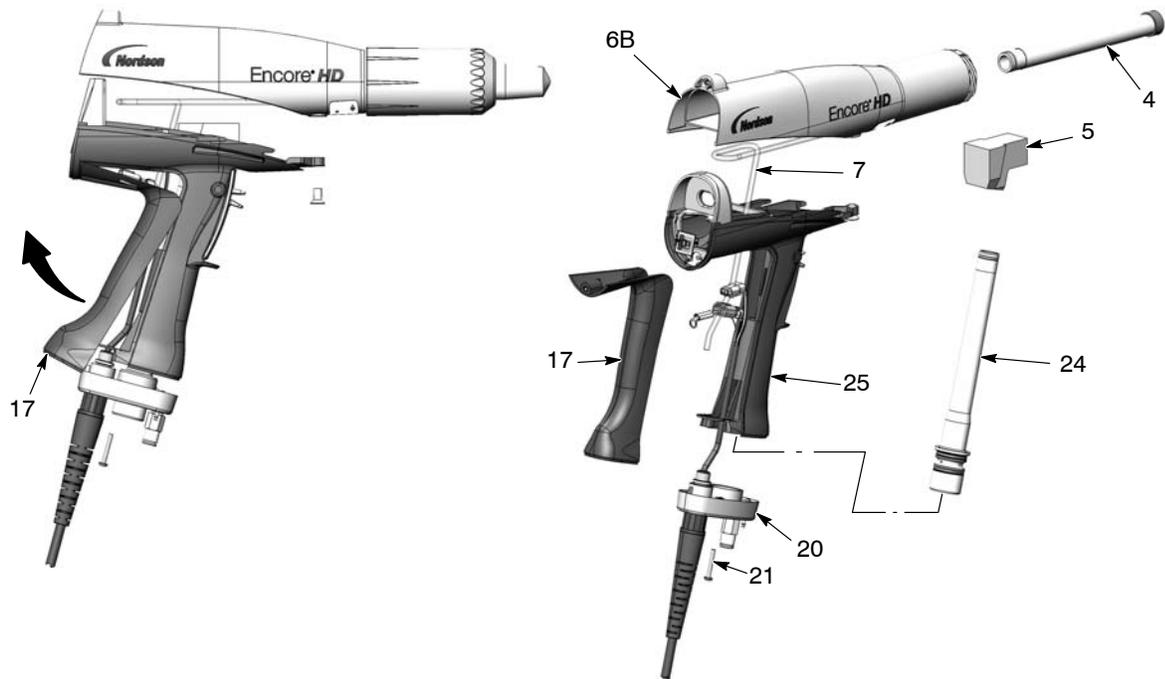

Figure 5-5 Powder Path Replacement
2. See Figure 5-5. Remove the elbow (5) from the inlet tube (24).
3. Remove the two M3 x 20 screws (21) from the handle base (20).
4. Pull the base away from the handle, then swing the bottom of the ground pad (17) up and away from the handle, then remove it. Leave the ground wire connected to the ground pad.
5. Push the inlet tube (24) up and out of the base, then move the base out of the way and pull the inlet tube out of the handle.
6. Push the outlet tube (4) out of the front of the gun body (6B).
1. See Figure 5-5. Install the outlet tube (4) into the gun body (6B), with the end of the tube flush with the end of the gun body.
2. Install the inlet tube (24) into the handle (25), then install the end of the tube into the handle base (20).
3. Push the handle base close to the handle, then hook the top end of the ground pad (17) into the body and rotate it onto the handle. Make sure the cable wires are not pinched or trapped during re-assembly.
4. Install the handle base onto the handle and ground pad and secure it with the two M3 x 20 screws (21).
5. Install the elbow (5) onto the inlet tube, with the end oriented toward the front of the gun as shown.